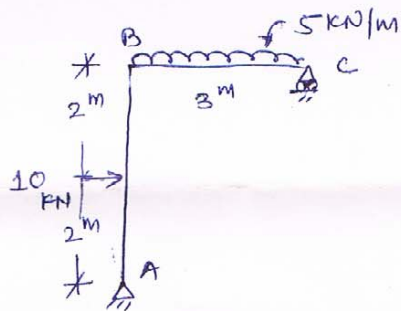

Fig. 5 (OR Q.5 (a))
Q.5 (a) Draw SFD, BMD and AFD for the portal frame shown in fig. 5. **07**